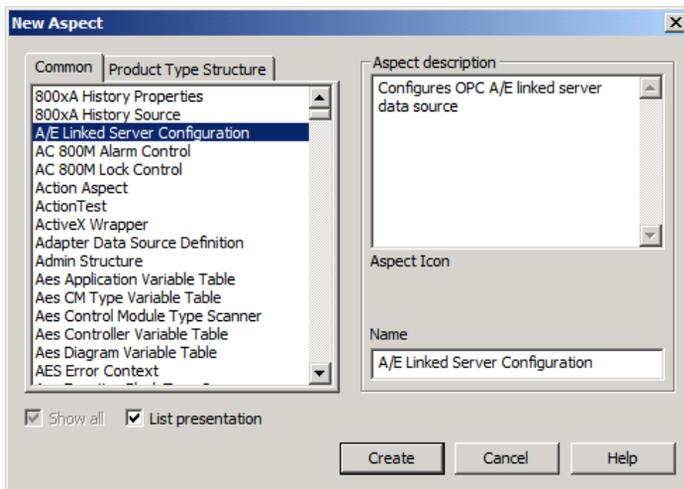

Figure 250. A/E Linked Server Configuration aspect
2. Select **A/E Linked Server Configuration** aspect as shown in Figure 250 and click **Create**.